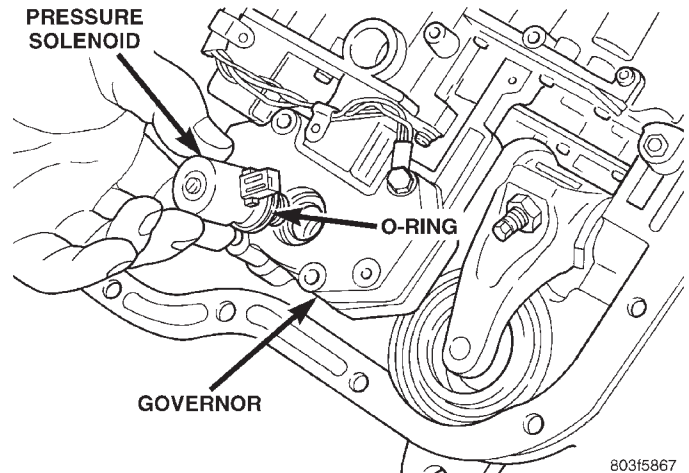
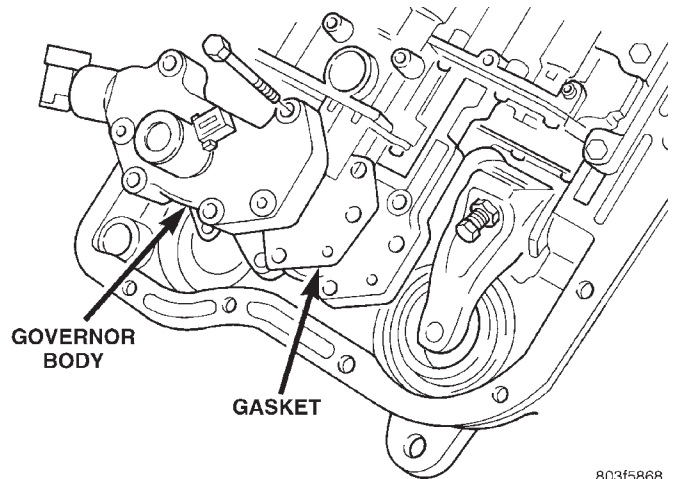
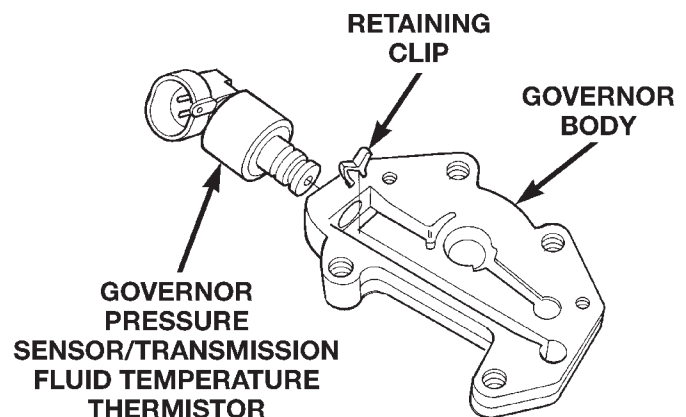

Fig. 35 Pressure Solenoid and O-ring
Fig. 36 Governor Body and Gasket
Fig. 37 Pressure Sensor and Retainer
- (6) Pull solenoid from governor body (Fig. 35).
- (7) Remove bolts holding governor body to valve body.
- (8) Separate governor body from valve body (Fig. 36).
- (9) Remove governor body gasket.
- (10) Remove retainer holding pressure sensor to governor body.
- (11) Pull pressure sensor from governor body (Fig. 37).
- (1) Lubricate O-ring on pressure sensor with transmission fluid.
- (2) Align pressure sensor to bore in governor body (Fig. 37).
- (3) Push pressure sensor into governor body.
- (4) Install retainer to hold pressure sensor to governor body.
- (5) Place gasket in position on back of governor body (Fig. 36).
- (6) Place governor body in position on valve body.
- (7) Install bolts to hold governor body to valve body.
- (8) Lubricate O-ring, on pressure solenoid, with transmission fluid.
- (9) Align pressure solenoid to bore in governor body (Fig. 35).